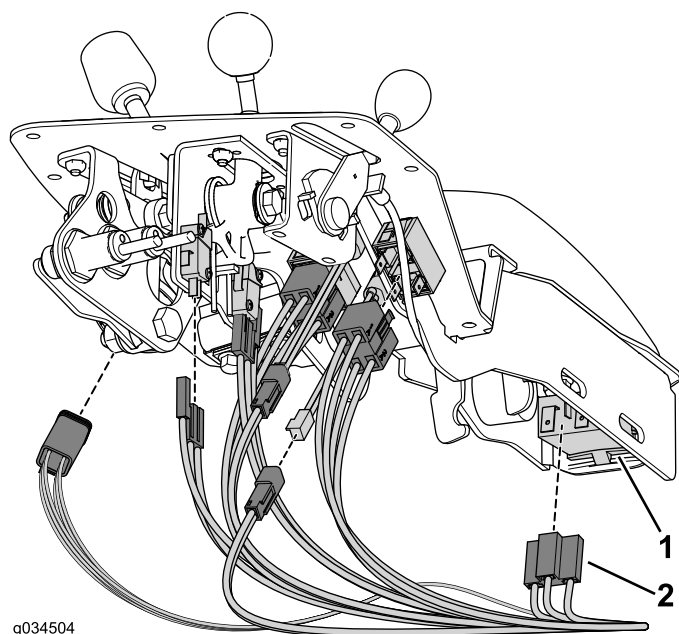

Figure 31
5. Connect the wire harness to the appropriate connections (Figure 31).